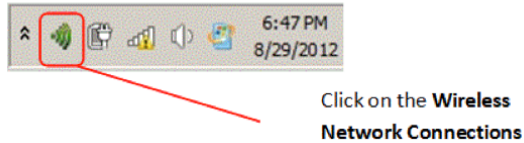
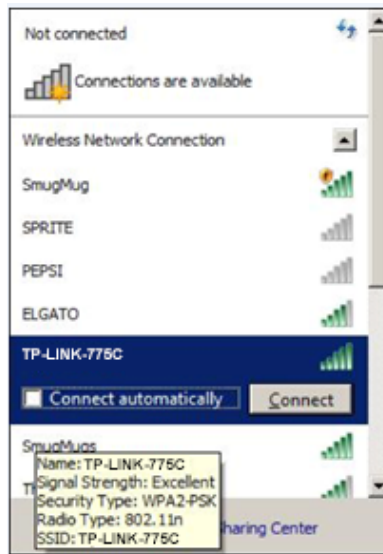

Figure 69: Wireless Connections Icon
Figure 70: Windows Wireless Networks
3. Click on the **Wireless Network Connections** icon in the bottom left of the screen (Figure 69) to open the *Windows Wireless Networks* dialog-box. (Figure 70)